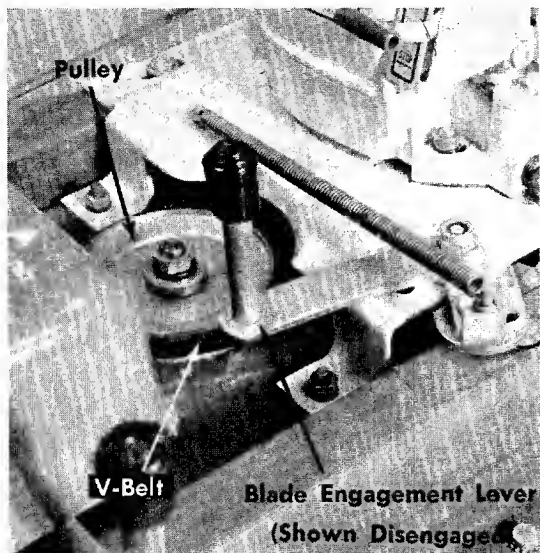
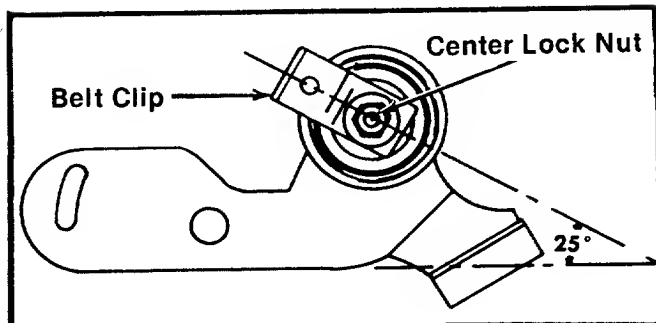

FIGURE 25. BLADE ENGAGEMENT LEVER
FIGURE 26. BELT IDLER
Step 5. Remove the belt from the transmission idler. See figure 25.
- Step 5. Place the blade engagement lever in the engaged position (see figure 25) and loosen the center lock nut on the blade idler. See figure 26.
Use a 1/2" open end wrench. When installing the new belt be sure the belt clip is in the same position as shown in figure 26.